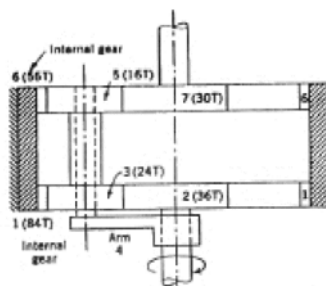

FIGURE 7.36
7.20. In the planetary gear train shown in Fig. 7.36, determine the angular-velocity ratio  $\omega_7/\omega_1$ . Compare this ratio with that obtained if the arm 4 is connected directly to the output shaft and gears 5, 6, and 7 are omitted.